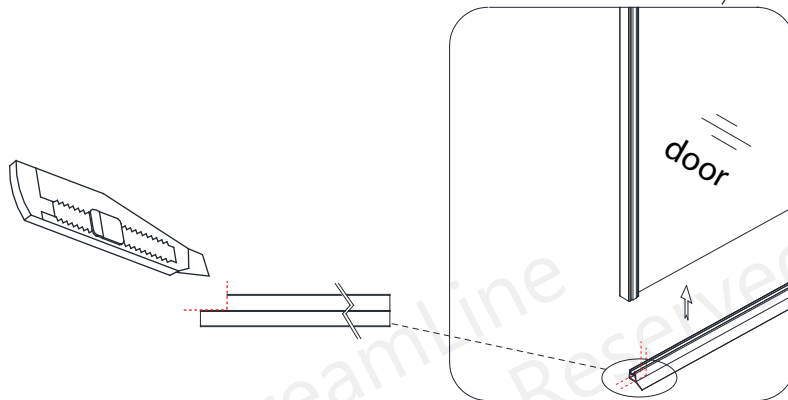

Fig 16
16. Trim the Bottom Sweep vinyl (#08) to fit on both sides of the bottom pivot and attach both pieces to the bottom of the **Door Glass (#17)** (Fig 16)